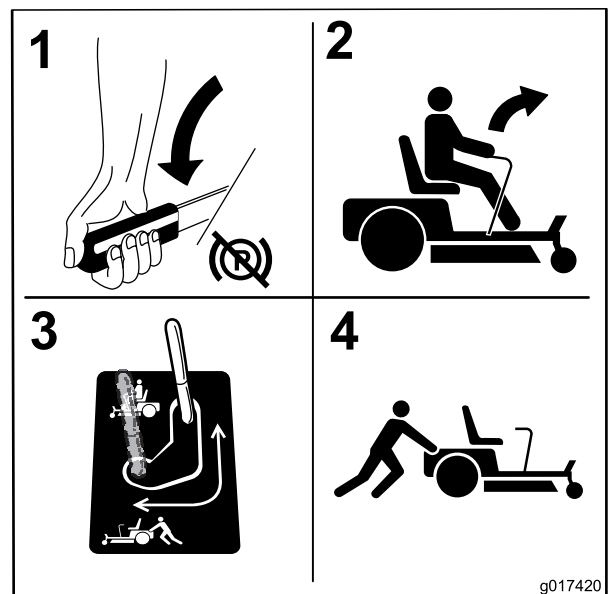

Figure 29
3. To push the machine, move the bypass levers rearward and out to lock them in place as shown in Figure 29. Repeat this on each side of the machine.
- To run the machine, move the bypass levers to the forward position (Figure 29).